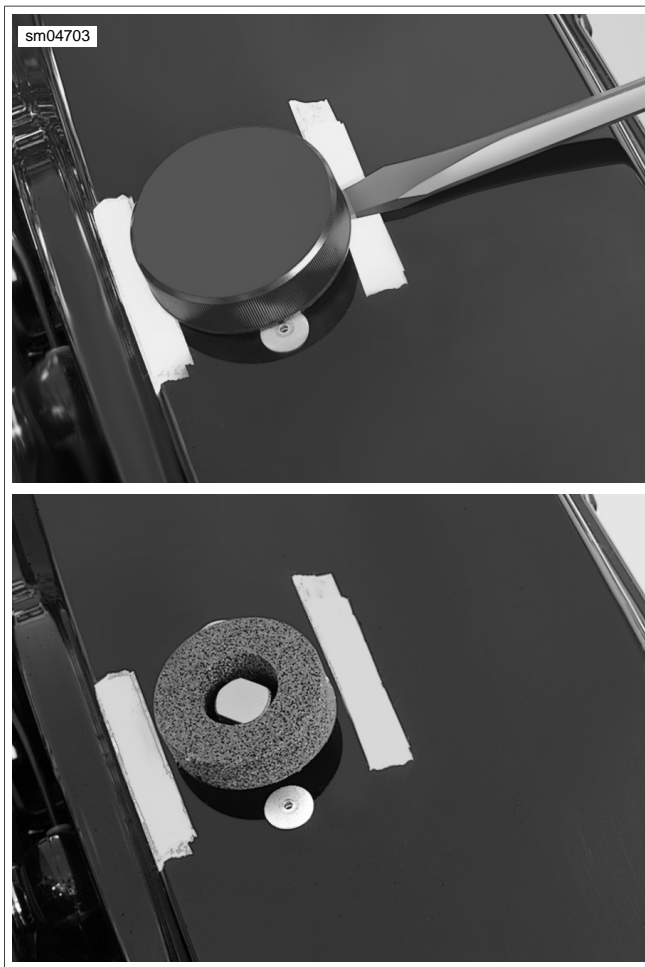

Figure 2-13. Saddlebag Knob and Seal
1. Place multiple strips of masking tape on each side of knob to protect finished surfaces from scratches and other damage. Using a large flat blade screwdriver, alternately pry up each side of knob until free of post. See upper frame of Figure 2-13.
- Remove knob seal and masking tape. Remove any residual adhesive with 3M general Purpose adhesive remover (Part No. 051135). See lower frame of Figure 2-13.